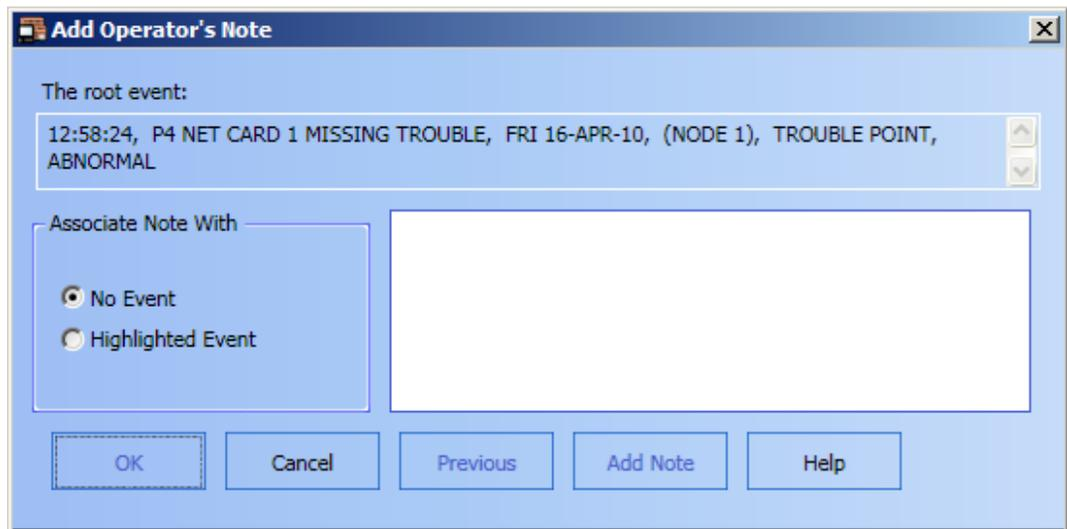

Figure 9-14 Add Operator's Note Dialog Box
4. The **Add Operator's Note** dialog box appears, as shown in Figure 9-14.